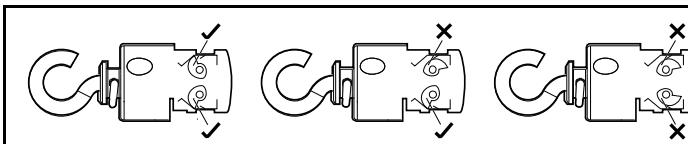

Fig. 4: Correct alignment of the clamping jaws
- Remove the yellow cap of the cable clamp and check the alignment of the clamping jaws. Adjust alignment with a screwdriver if necessary (Fig. 4). Correct alignment prevents the cable from slipping.